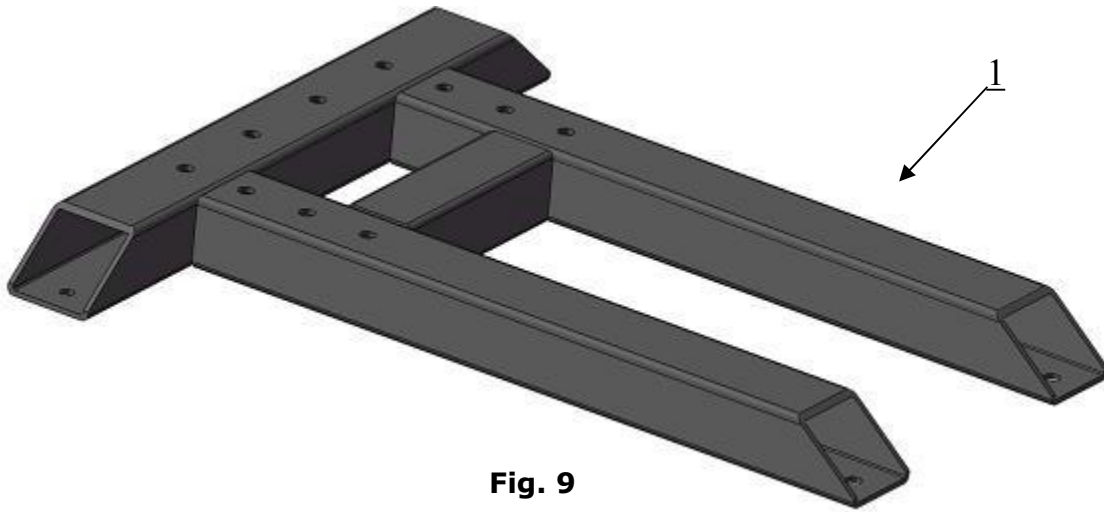

Fig. 9
C. Lay the base on the ground, confirm installation place according to the ground state, the main purpose is to save space. (See Fig.9)